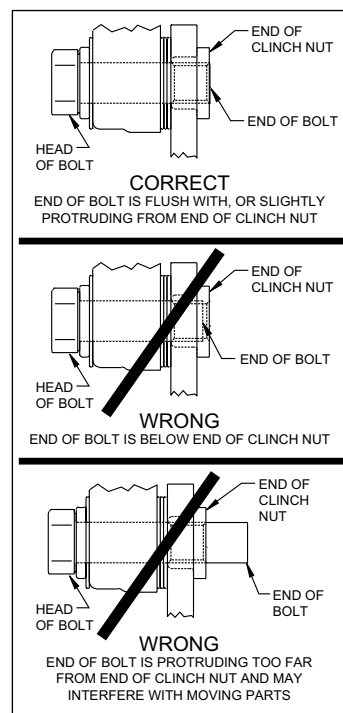

Figure 3. Clinch Nut Engagement Diagram
CAUTION: All mounting bolts must fully engage clinch nuts. Be sure to check that all bolts are either flush or protruding through flanged side of clinch nut after shimming, Figure 3.
- For kit p/n 140-17936:** Initially place two .035" thick shims (13) on each bolt (11) between the caliper and the bracket, Photo 7a.
- For kit p/n 140-17938:** Initially place one .035" thick shim (13) on each bolt (11) between the caliper and the bracket, Photo 7b.
Temporarily tighten the mounting bolts and view the rotor (7) through the top opening of the caliper. The rotor should be centered in the caliper, Photo 8. If not, adjust by adding or subtracting shims between the bracket and the caliper. Always use the same amount of shims on each of the two mounting bolts. **NOTE: The end of each bolt (11) must be flush with or slightly protruding from the head of the clinch nut, as shown in Figure 3.** If necessary, place spare shims between washer (12) and caliper mounting ear to achieve the proper clinch nut engagement. Once the caliper alignment and clinch nut engagement are correct, remove the bolts (11) one at a time, apply red *Loctite*® 271 to bolt threads, and torque to value shown in Figure 1.
STEP 5 Remove the caliper pad retainer clip, bolt, washer and tube from the caliper. Insert the brake pads (14) into the caliper, with the friction material facing the rotor, as shown in Photo 9. Reinstall the pad retainer clip, bolt, washer and tube. The bolt should be snug without play in the tube. Be cautious not to over tighten.
STEP 7 Attach brake line to caliper. **NOTE: OEM rubber brake hoses generally cannot be adapted to Wilwood calipers.** Install Wilwood's stainless steel braided flexline hose kit (15) that is included with this kit. See below for more info on flexline kits.